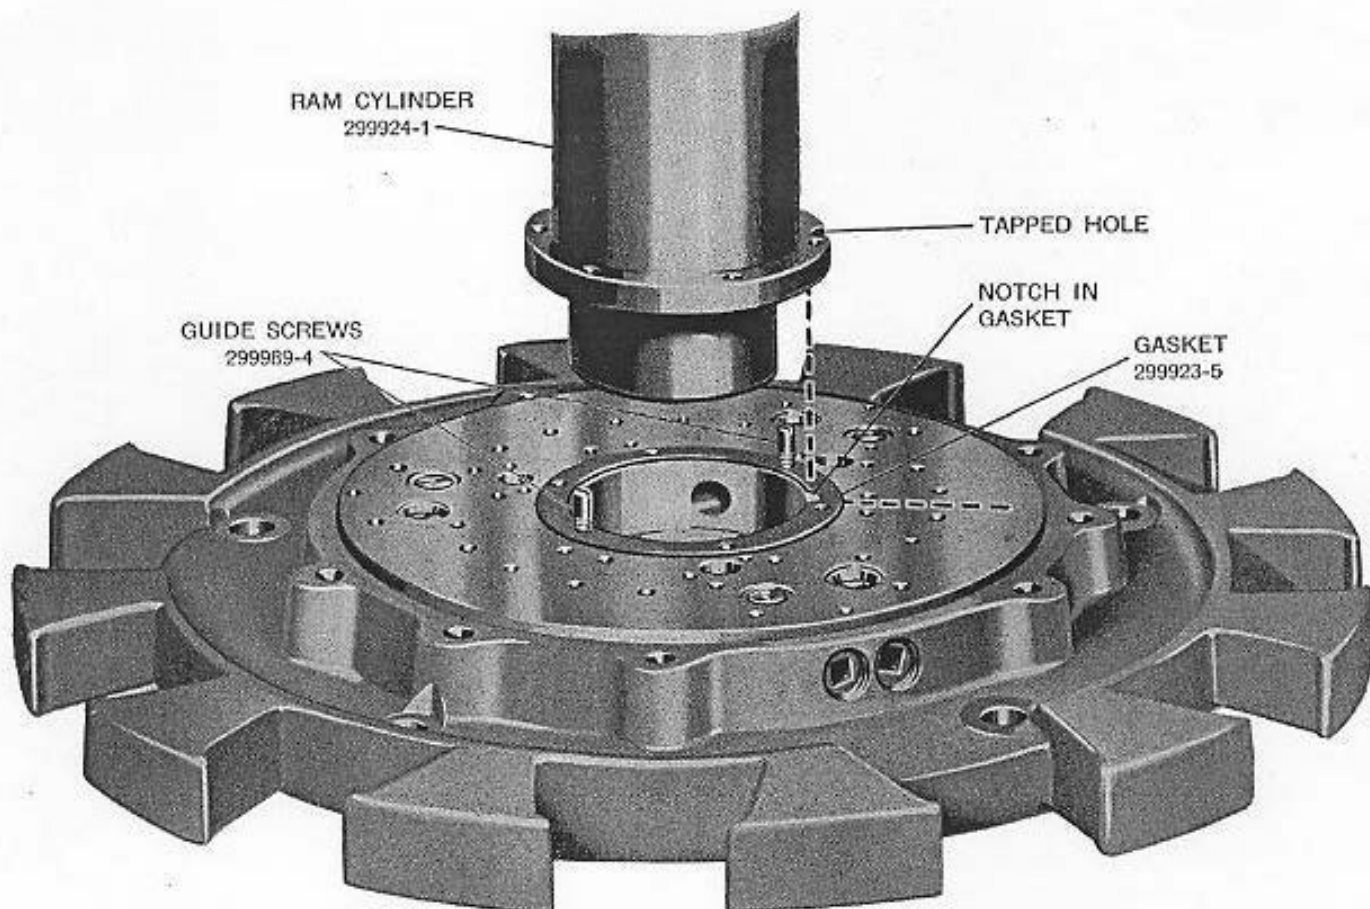

Figure 44—Position of ram cylinder and gasket on base
5. RAM CYLINDER (299924-1)—Turn the base right side up and clean the top side and central bore of the base carefully. Coat both sides of cylinder gasket (299923-5) with sealer (299998-4). Screw the two pilot screws (299989-4) in opposite cylinder flange screw holes in the base and install the gasket on the base. The base air vent notch in the gasket must be placed on a radial line between any two groups of three pedal lever bracket holes. See Figure 44.
Raise the ram cylinder with hoisting bar (299991-1) which is fastened to the upper end of the ram (the ram will slide part way out of the cylinder) and set the ram cylinder on the base. The tapped hole in the cylinder flange must be over the notch in the gasket. See Figure 44. Install four ram cylinder to base screws (12-Z-46-263) and four new lock washers (12-Z-22-254). Remove the two pilot screws and install the remaining two screws (12-Z-46-263) and lock washers (12-Z-22-254). Tighten the screws securely, using box wrench (299996-2). Remove ram cylinder sleeve (299925-1) from the cylinder.